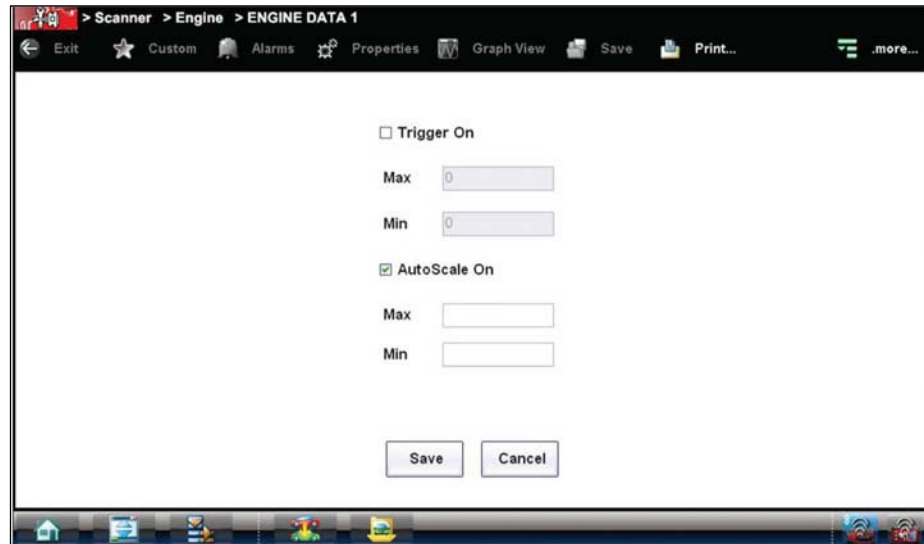

Figure 4-27 Sample manual scale selection
2. From the Graph Properties dialog box (Figure 4-27), select **Auto Scale On**.